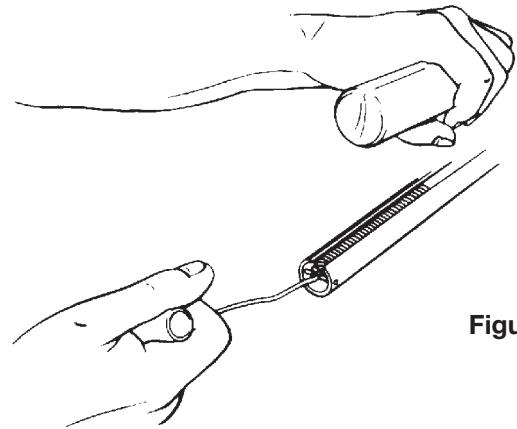

Figure 1
1. Clamp the long handle (31) into a vise with a short handle (53) parallel to the floor and with the head pointing away from you.
2. Remove the rubber grip (43).
3. Unhook the spring (39) from the pin (40) in the short handle (53) (see Figure 1).
1. Clamp the long handle (31) into a vise with the short handle (53) parallel to the floor and with the head pointing away from you.
4. Loosen nut (20) from bolt (19) using 7/16" wrenches.
5. Remove bolt and snubber (16).
7. Unhook two closing springs (15).
8. Remove bolt (19) and nut (20) and snubber (16).
11. Remove retaining ring (54) from sprocket pin (51).
12. Remove sprocket pin (51).
13. Remove 2 side plates (55), sprocket (56), washer (57), pin (23), detent pawl (28), and spring (36).